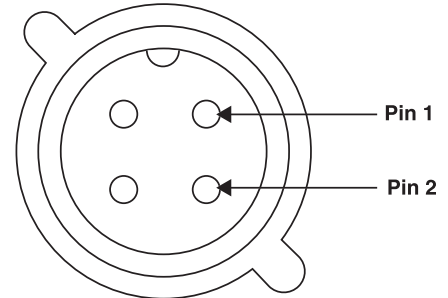

Fig. 8.1 Front view of Control Connector on end of Y-cord.
1. Connect an ohmmeter to the two pins labeled in the larger connector (**Fig. 8.1**). The meter should read 0 ohms.